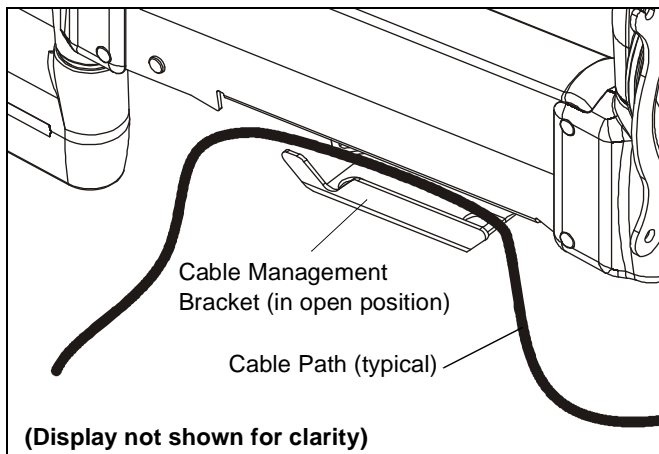

Figure 6
3. Carefully insert cables into bracket (See Figure 6).